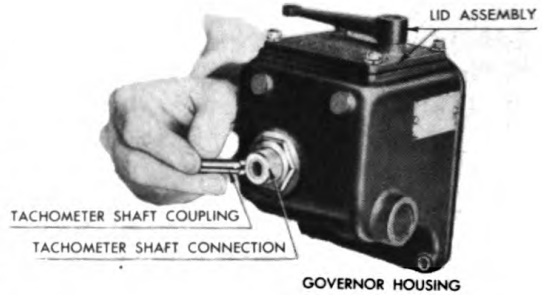

Figure 212. Removing Tachometer Shaft Coupling.
1. Remove the governor housing from the governor end plate by removing the speed adjusting nuts and the six capscrews. After the governor housing has been removed from the governor housing end plate, remove the governor lid assembly by removing the four lid screws and remove the tachometer shaft coupling, as shown in Figure 212.